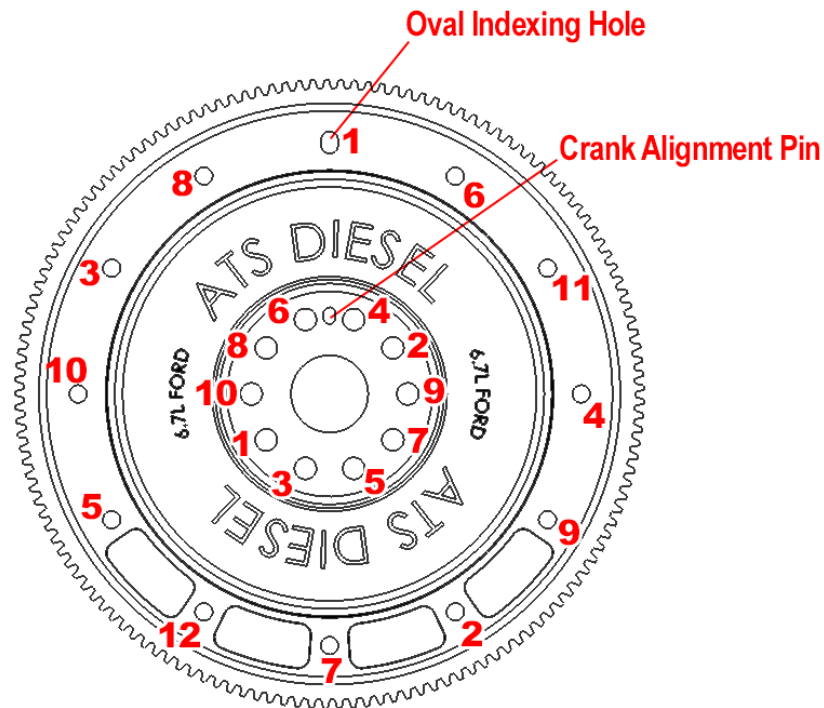

Figure 1: Oval Index Hole and Torque Sequence
3. Torque (10) crankshaft bolts **first to 44 in-lbs** in the numbered sequence as shown on the following page. (See Fig 1).
4. Torque (10) crankshaft bolts **last to 74 ft-lbs** in the number sequence as shown above. (See Fig 1).
5. With the transmission reinstalled, thread the first torque converter bolt/nut through the oval shaped hole (See Fig. 1). This hole will line up the rest of the torque converter bolts and will make installation easier.
6. If using a factory torque converter with 6 threaded studs, only 6 of the 12 holes are needed. (See Fig. 1, use torque sequence 1-7-3-9-5-11). Torque the nuts to **35 ft-lbs**.
8. If using an ATS 5-Star Torque Converter, torque the bolts to **35 ft-lbs** using the bolt sequence (1 thru 12) shown in Fig. 1.